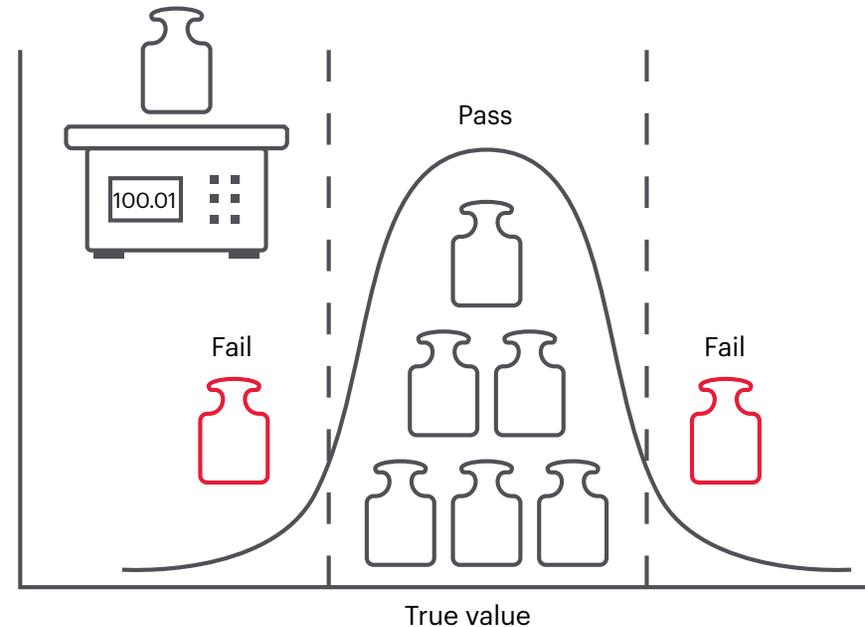

Figure 1. Normalized population distribution of true value of weights
A simplified definition of error is true value minus the measured value. As an example, consider a weight on a scale. The weight depicts the device under test (DUT) and true value, while the scale output depicts the measured value. The measurement uncertainty (MU) depicts the limits of error statistically, as shown in Figure 1.